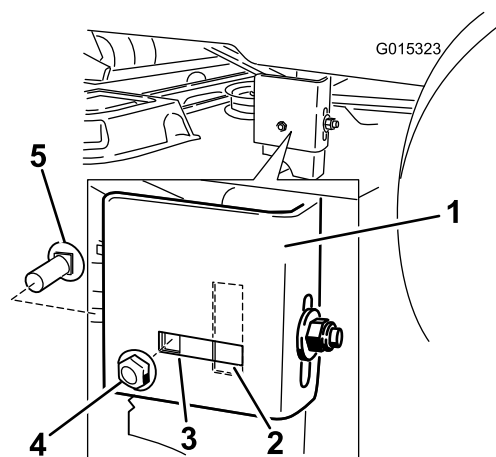

Figure 58
- Move to the left side of the machine. Check if the side carriage bolt is in the fixed or slotted position (Figure 58).
- If the side carriage bolt is in the fixed position, remove the side carriage bolt and side locking nut from the fixed position and install it into the slotted adjustment position (Figure 58).